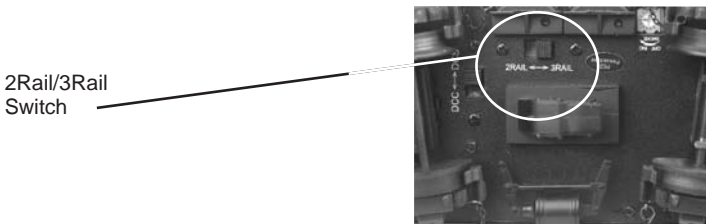

Figure 4: 2-rail / 3-rail switch
2. Change the power input from 3-Rail to 2-Rail as seen in figure 4 (above).